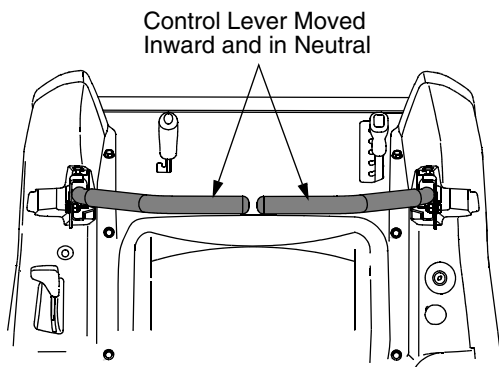

Figure 9
- Move the RH and LH drive control levers inward in the neutral position. See Figure 9.